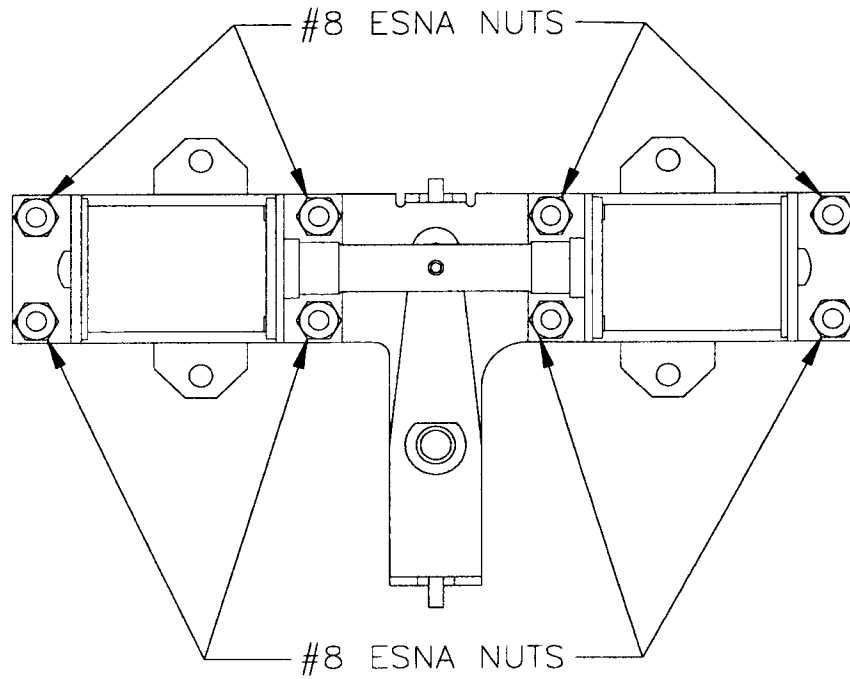

Fig. 12
d. Remove eight (8) #8 ESNA nuts from the top of mechanism. (See Fig. 12)